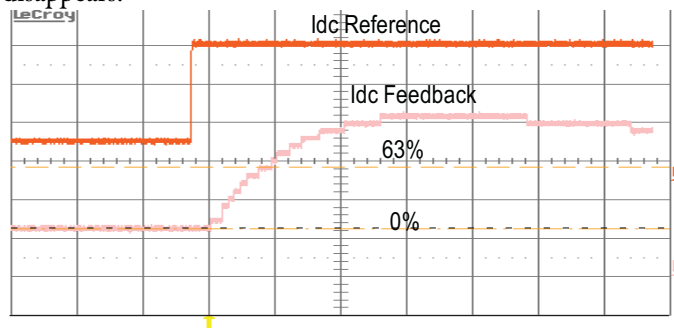
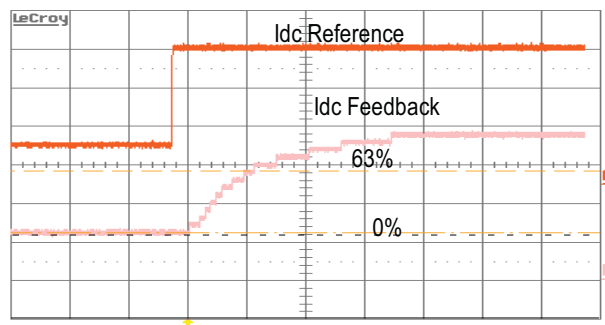

Figure 55 - Current regulator tuned incorrectly
Figure 56 - Current regulator tuned correctly
9. Adjust the T DC Link parameter until the current feedback rises to ~63% of its final value in 10 ms as shown in Figure 55 and Figure 56. The overshoot should reasonably small. Increasing T DC Link causes the rise time to increase. Since the desired step response is slightly under-damped, do not increase the T DC Link beyond the value at which the overshoot disappears.